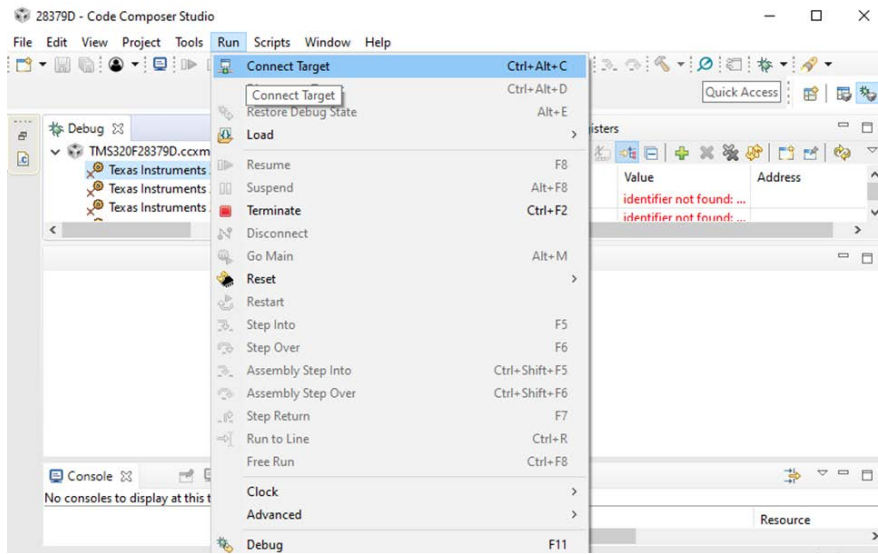

Figure 9: Connect Target
6. **Make sure the DSP is powered up.** Choose **Connect Target** (Figure 9).